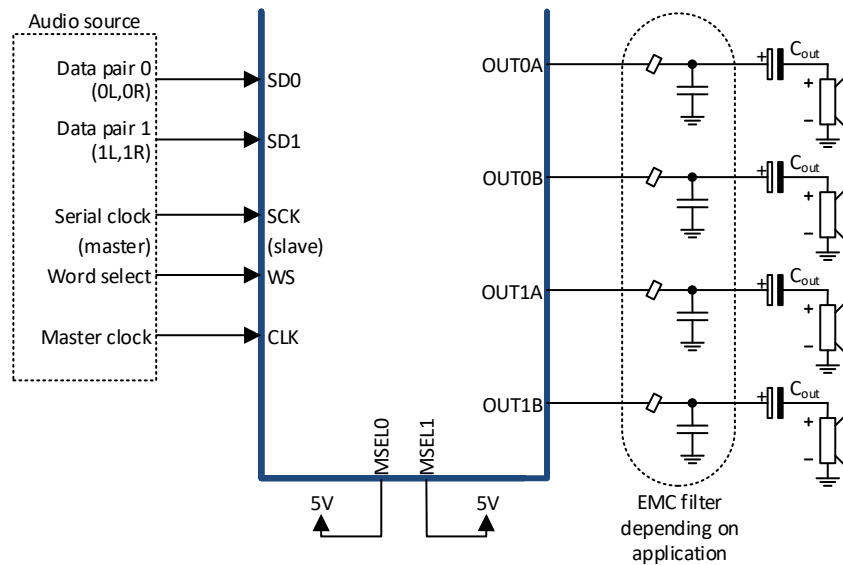

Figure 9-2 Four channel, single ended (SE) configuration.
In single ended (SE) configuration, the MA12070P is able to drive one loudspeaker per output power stage, i.e. up to four loudspeakers. The output is biased to half the power supply voltage, $\frac{1}{2}$ PVDD. One of the solutions to drive a speaker in this configuration is to use AC-coupling capacitors (C_{out}) in series with the load, as shown in Figure 9-2. The value of the capacitors depends on the load resistance and the desired audio bandwidth.